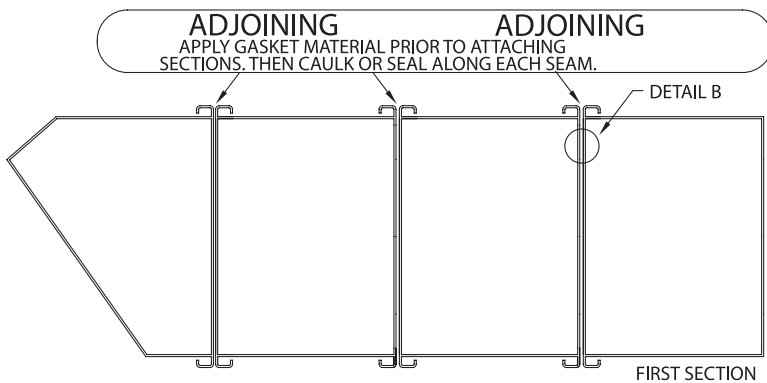
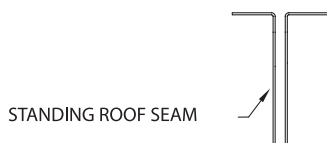

FIGURE 1
FIGURE 3
1. Apply gasket material to the end of the first section (blower, discharge, heater, ets). (See Fig. 1.)
3. Once the sections are connected, apply caulking or silicone sealant along the standing roof seam (Fig. 3) and side seams where the sections come together. (Fig.1) It is mandatory to seal the roof and side seams along the entire outside of the unit, and it is strongly suggested that the seams also be sealed along the inside of the unit, if possible.